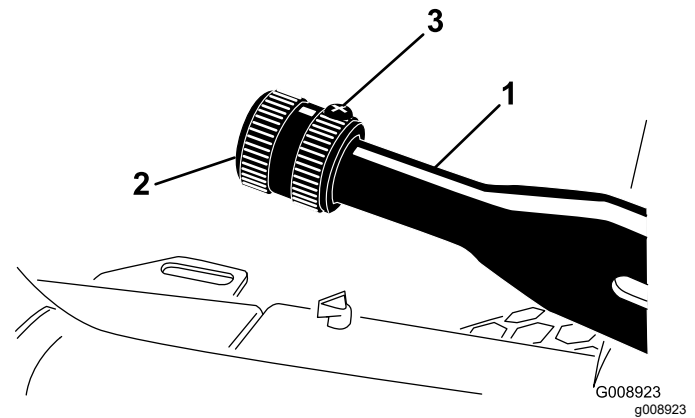

Figure 73
2. Loosen the setscrew securing the knob to the parking-brake lever (Figure 73).